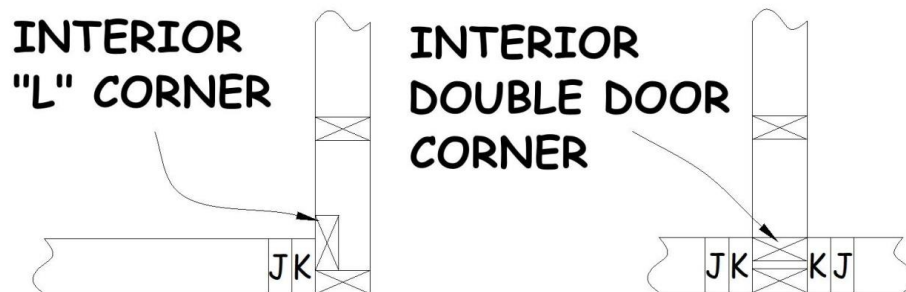

Figure 6-5. Corner Construction.
4. Where a door will be attached at the end of a bathroom or bedroom wall, mark the end of the wall for a 2x4 L-corner oriented to allow nailing through the L-corner into the King stud of the door as shown in Figure 6-5 (similar to the 2x6 L-corners used in the exterior walls). If doors are to be attached on both sides of this same wall, omit the L-stud, and orient the additional 2x4 as shown.